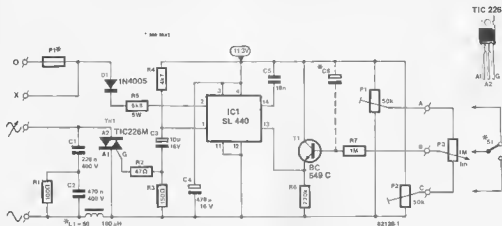
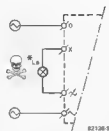

Figure 1. The dimmer control is designed around the SL 440 IC which is a phase angle controller from Plessey. Presets P1 and P2 adjust the control range limits.
Figure 3. How to connect filament lamps to the dimmer.
5. Remove C11, R29 and R30. Mount a wire link as shown in figure 3. Replace R31 by a resistor having a value of 33 k.
Figure 1 shows the circuit diagram of the dimmer. Normally speaking, an RC network would be used in combination with a diac to control the triac (Tri1). Here however, an IC specifically designed for the purpose, the SL 440 from Plessey, has been included to control the phase cut-off angle. The IC has the advantage that it enables the phase to be controlled during practically the entire half cycle of the mains voltage. This means that the power can be adjusted from roughly zero to the maximum level.
Filament lamps may be connected directly to the dimmer via the connections shown in figure 3. The current through a cold lamp filament may be 10...25 times higher than the normal rate, so the fuse (F1 in figure 1) must be able to handle this. A practical guideline is to reckon with 2 or 3 times the nominal current rating of the lamp (= watts divided by the mains voltage, times 2 or 3). A total lamp power of,
If the range is exceeded, the fluorescent tube will start to flicker. This should be remedied very quickly, as a harmful, asymmetrical AC current (in other words a DC component) will start to flow through the choke. P1 and P2 (see figure 1) keep the range within safe limits. Adjust P2 so that the tube will light at full power without flickering.
In gradual on/off dimmers, preset P3 is replaced by a toggle switch or a two-way relay contact in a time switch (see figure 1, connection points A...C). The result is a two-way dimmer. The brightness may be preset in both switch positions by P1 and P2. By adding capacitor C6 to the circuit, the voltage